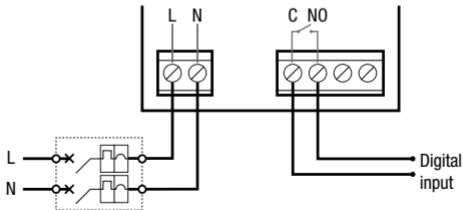

Fig. 1: connection to digital input of an electronic appliance with separate power source
3. Depending on the type of application, make the connections as shown in the diagrams (fig. 1 or 2) and as indicated by the manufacturer of the device to be controlled